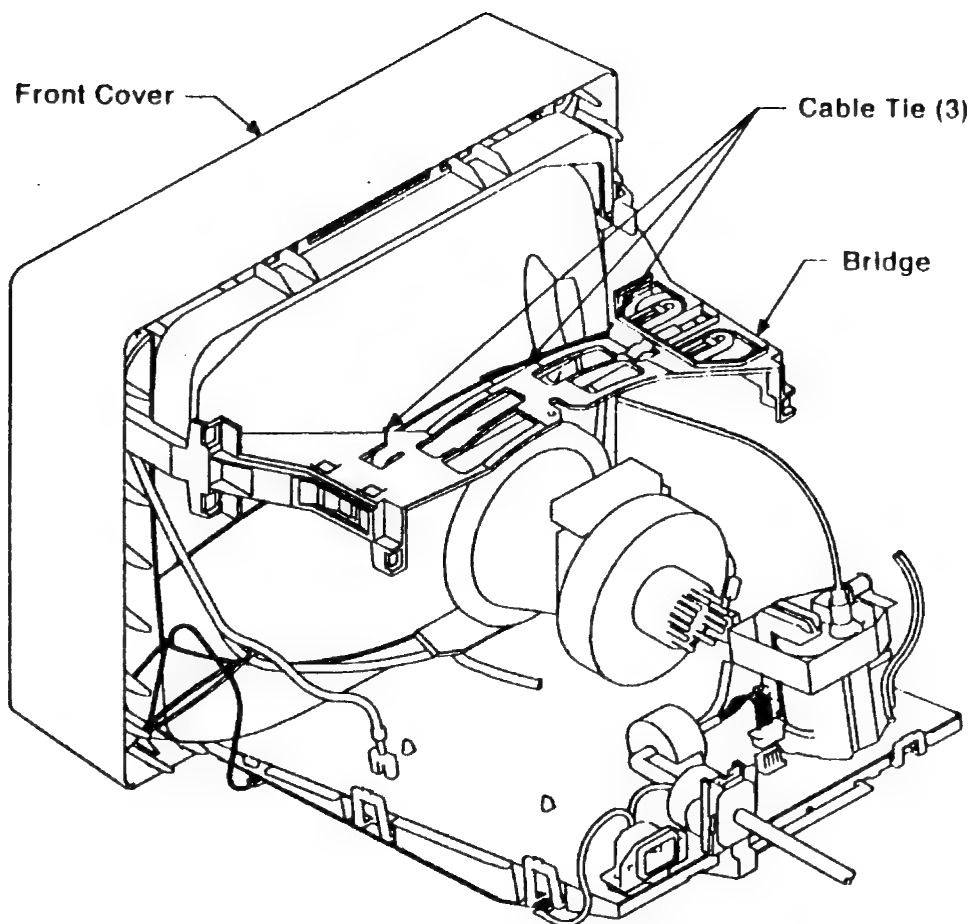

Figure 4-3. ITC Cable Ties
- Use the cable ties supplied with the ITC to secure the insulated wire link to the bridge. (See Figure 4-3 on page 4-4.)